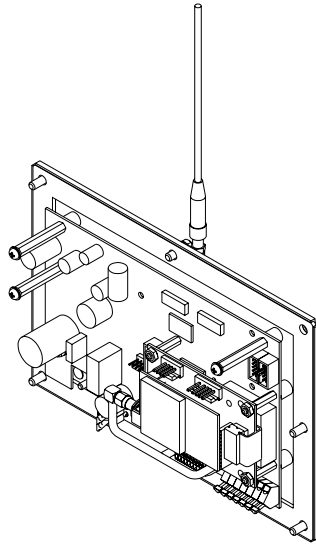

Figure 10-25: 460/465 Antenna
9. Fasten the RF module to the standoffs with the (4) lock nuts (38-21-1640) from the small bag labeled 60 Series.
11. Fasten the antenna to the indicator by sliding the cable clamp (31-80-0131) over the antenna cable and screw to the enclosure with the rear panel screw (38-31-6218) from the small bag labeled 60 Series. See Figure 10-25 for an illustration.
8. Fasten the RF module to the standoffs with the (4) lock nuts (38-21-1640).
10. Fasten the antenna to the indicator by sliding the cable clamp (31-80-0131) over the antenna cable and screw to the enclosure with the rear panel screw (38-31-6218) from the small bag labeled 60 Series. See Figure 10-25 for an illustration.